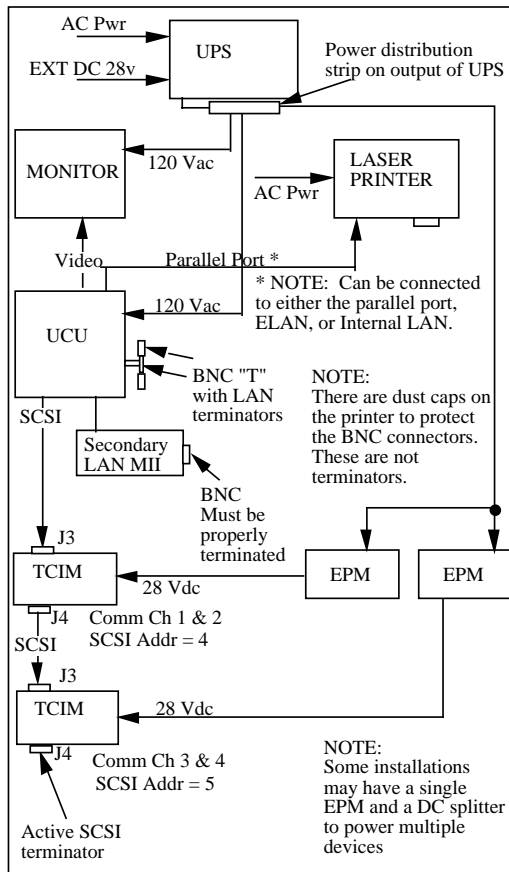

Figure 1. Standard UCU FSCT Arrangement
B. Equipment Setup Instructions. The following steps show how to properly setup and wire an AFATDS workstation. See Figure 1 below for reference. For information on connecting the video monitor, SCSI cables, wire line adapter, and LAN, see the Common OPFAC Configuration section of this guide.